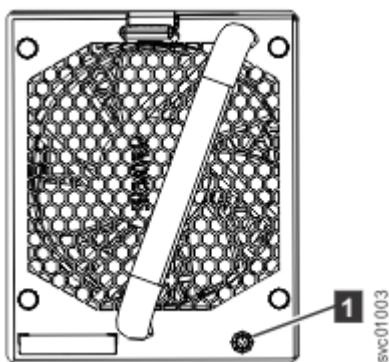

Figure 182. Fan module LED
1. Identify the fan module to be replaced. When lit, the amber LED on the front of the fan module (1 in Figure 182 on page 209) identifies a fault.